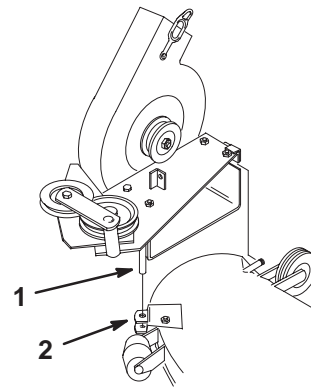

Figure 38
2. Remove the blower by lifting the pivot pin out of the pivot support (Fig. 38).